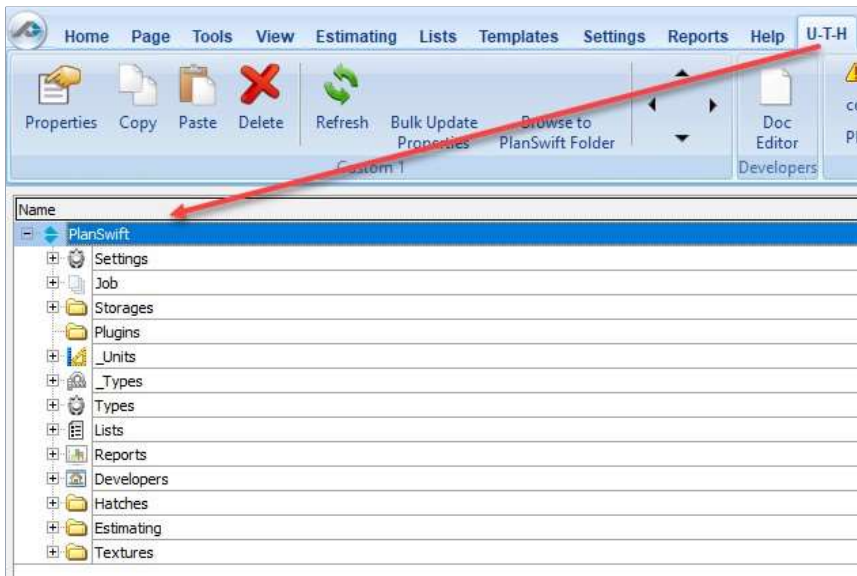

Figure 3
7. Clicking on **U-T-H** tab displays the Under-The-Hood (U-T-H) hierarchy (Figure 3). **PlanSwift** is the root, or the parent object. Each of the folders beneath PlanSwift is a child of PlanSwift.